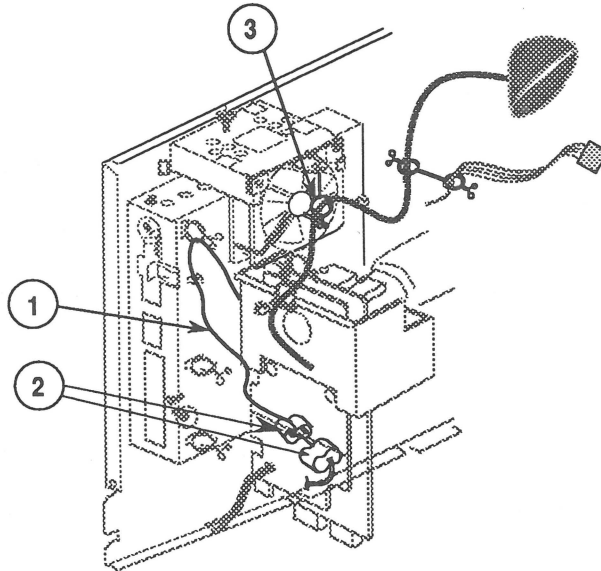

FIGURE 37
6. Disconnect the fan cable (Figure 37, #1) at the fan connectors (Figure 37, #2).
7. Remove the fan cable (Figure 37, #1) and the large red anode cable (Figure 37, #3) from the cable clamps.